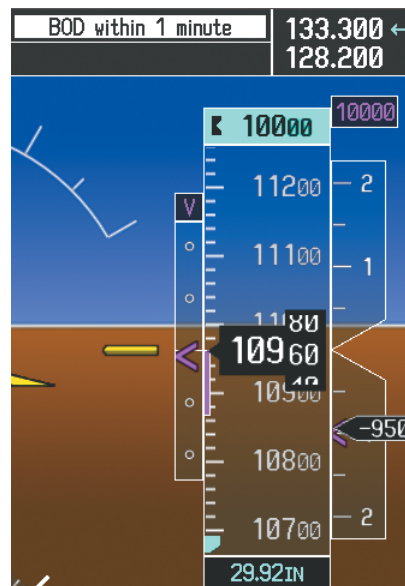

Figure 5-140 Approaching Bottom of Descent (BOD) at OPSHN Offset Waypoint
- 17) When the aircraft is one minute from the bottom of descent (BOD) it is annunciated as shown in Figure 5-140. Upon reaching the offset waypoint for OPSHN, the aircraft is at 10,000 feet.